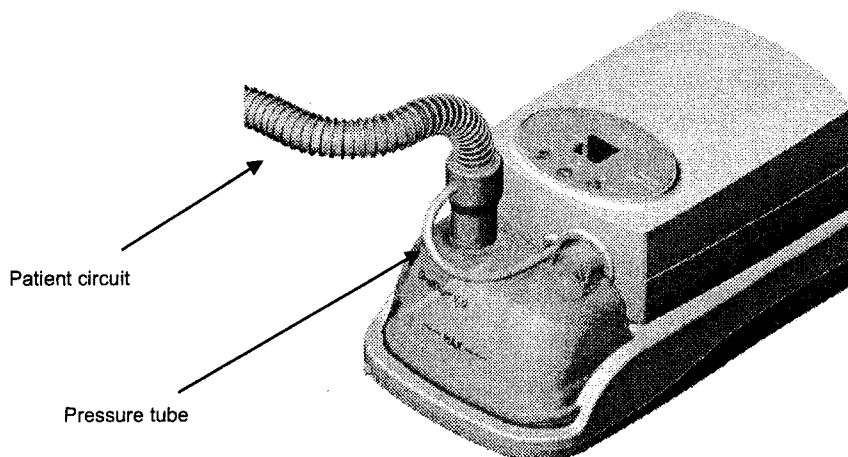

Figure 3 – Connection of the *GoodKnight 420* or *GoodKnight 425* to the *GoodKnight H2O* heated humidifier
5. Position the *GoodKnight 425* or *GoodKnight 420* device onto the *GoodKnight H2O* heated humidifier, as shown in Figure 3 on page 5.